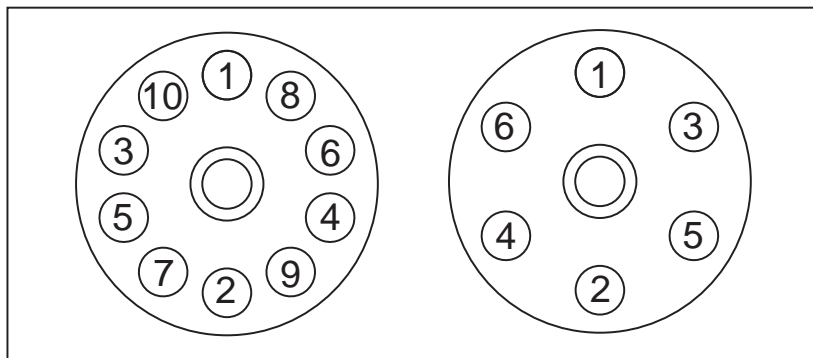

Figure 2: Nut Tightening Sequence for Stud Piloted Disc Wheels
8. Slide the front wheel or inner dual wheel over the studs being careful not to damage the stud threads. Lift the wheel to center one stud within its bolt hole while installing an inner nut finger tight. Repeat with another nut about 180 degrees away from the first. Install the remaining nuts. Snug up nuts to about 50 ft. lbs. in the sequence shown in Figure 2. Do tighten then fully until all have been seated. This procedure will permit the uniform seating of nuts and ensure the even, face to face contact of the wheels against the hub or drum. Tighten the nuts to the recommended mounting torque (see Table 1) using the same criss-cross tightening sequence.
9. Place the outer dual wheel over the ends of the inner nuts and install 2 outer nuts 180 degrees apart finger-tight to locate the wheel. Install the remaining nuts and tighten to 50 ft. lbs. using a crisscross sequence as shown in **Figure 2**. Finally tighten the outer nuts to the recommended torque (see **Table 1**) using the same sequence.